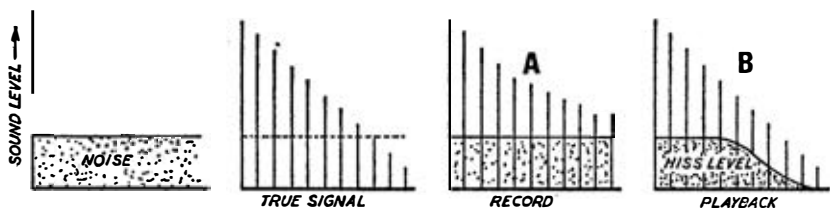

Fig. 10 A DOLBYIZED RECORDING BOOSTS SOUND LEVELS ABOVE THE NOISE LEVEL AND THEN RE-CONVERTS TO THE ORIGINAL SOUND LEVELS WITH REDUCTION OF HISS ON PLAYBACK
The Dolby system incorporates a special circuit to pre-listen to the sounds being recorded, and the information obtained is decoded in the form of a boost to the levels of the quieter passages during actual recording. In other words, the recorded sound levels are now all above the likely 'hiss' level so that each level of sound will stand out above the 'hiss'—Fig. 10 (A). This will be evident on playback—Fig. 10 (B). All the sounds are at a high enough level to mask the hiss.
However, the individual sound levels will no longer be a faithful reproduction of the original. Some will be boosted to a higher level. To complete the cycle of dynamic noise level control a Dolby circuit is also required in the playback circuit, working in the opposite way to the record. That is, the artificial 'boost' is deleted immediately prior to playing, restoring the true signal level. This, as shown in Fig. 10 (B), will also have the effect of reducing the 'hiss' at those restored levels.